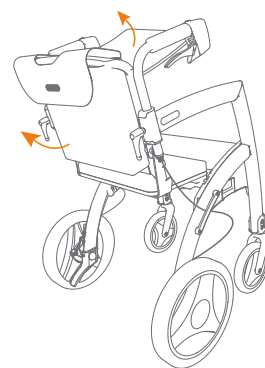
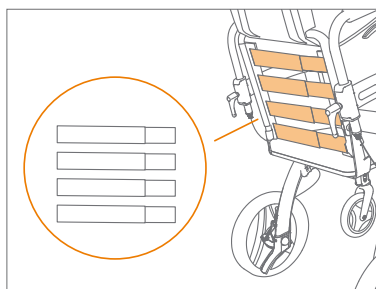

Figure 45: Clear adjustment straps.
Figure 46: Four adjustable straps.
- Pull up the bag of the wheelchair package and the backrest cover from the bottom (**Figure 45**). The adjustment straps are now clearly visible (**Figure 46**).